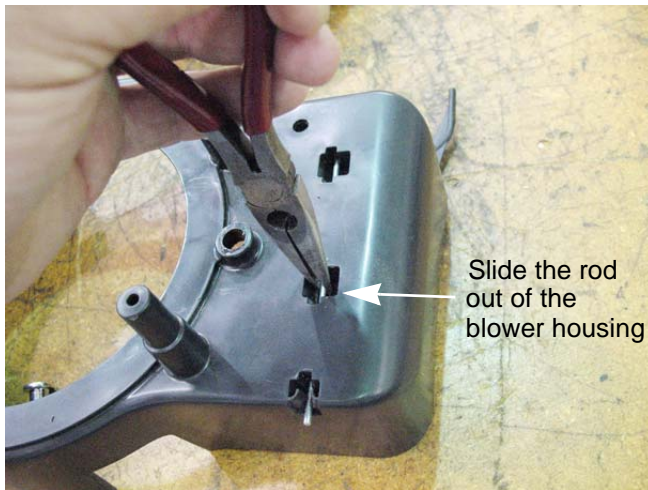

Figure 4.32
- Slide the air door rod out of the blower housing. See Figure 4.32.